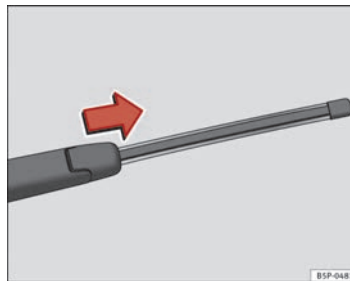

Fig. 168 Removing the rear window wiper blade
- Lift the wiper arm away from the glass ⇒ Fig. 168
- Slide the blade adapter in the direction of the arrow and remove the blade ⇒ Fig. 168.